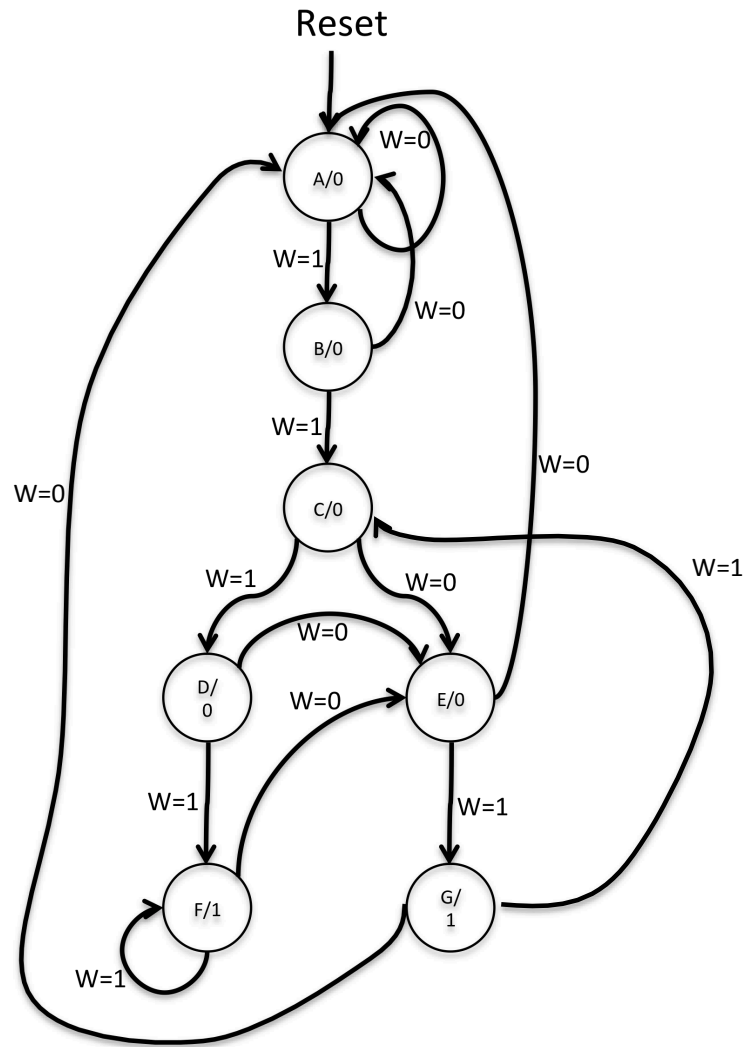

Figure 2: A state diagram for the FSM.
A state diagram for this FSM is shown in Figure 2. For this part you are to manually derive an FSM circuit that implements this state diagram, including the logic expressions that feed each of the state flip-flops. To implement the FSM use seven state flip-flops called y_6, \dots, y_0 and the one-hot state assignment given in Table 1.
For this part you are to write another style of Verilog code for the FSM in Figure 2. In this version of the code you should not manually derive the logic expressions needed for each state flip-flop. Instead, describe the next-state logic for the FSM by using a Verilog **case** statement in an **always** block, and use another **always** block to instantiate the state flip-flops. You can use a third **always** block or simple assignment statements to specify the output z . The FSM should use three state flip-flops y_2, \dots, y_0 and the binary state codes, as shown in Table 2.
4. To examine the circuit produced by Quartus II open the RTL Viewer tool. Double-click on the box shown in the circuit that represents the finite state machine, and determine whether the state diagram that it shows properly corresponds to the one in Figure 2. To see the state codes used for your FSM, open the Compilation Report, select the **Analysis and Synthesis** section of the report, and click on **State Machines**.